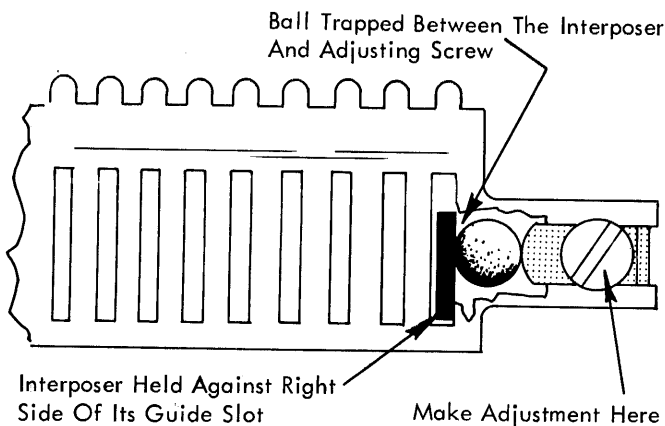

FIGURE 12. Compensator Adjustment, Early Style
- b. Early Style (Fig. 12) - With the extreme RH interposer latched down and held against the right side of its guide slot, adjust the adjusting screw (or slider) until the extreme RH ball is trapped between the interposer and the adjusting screw (or slider). Follow the same procedure for the left side.